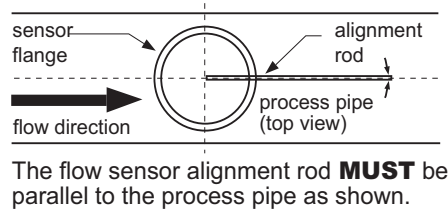

Fig. 6
- D. Place the alignment rod in the alignment hole on the sensor flange. Align the flange so rod is parallel to the process pipe. (Fig. 6)